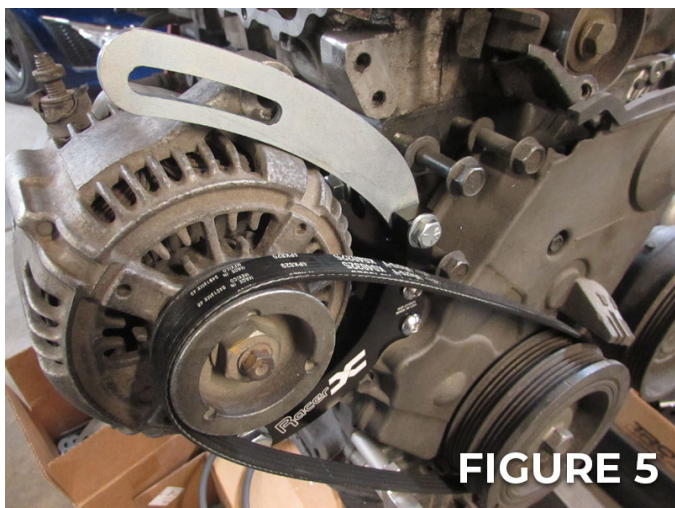

FIGURE 5
5. Install alternator belt. Correct belt length is 32.5" (part number shown for reference). With alternator pushed forward slide belt over both pulleys. (Fig 5 & 6)